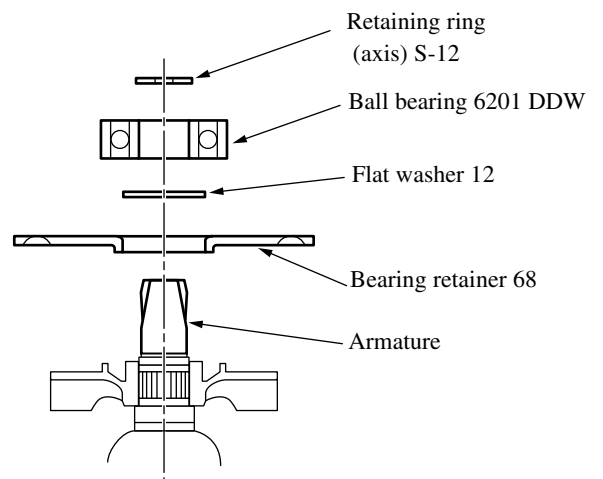

Fig. 4
1) After installing Bearing retainer 68 and Flat washer 12, attach Ball bearing 6201 DDW. Then install Retaining ring (axis) S-12. ( See Fig.4)